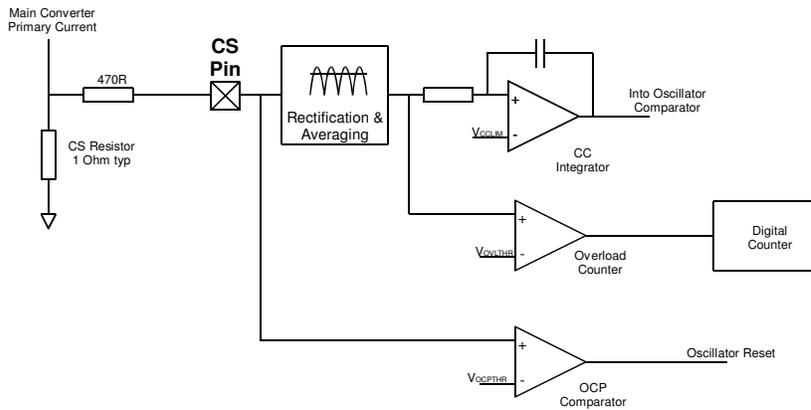

Figure 7: current protection circuits
Figure 7 shows the three current protection methods used in the converter:
Shown in Figure 7, the signal from the CS pin is divided into two different paths. The bottom path provides peak instantaneous over-current protection (OCP) while the constant current limit (CC) and the average current overload (OVL) both use the averaged current signal. The voltage on the CS pin is an AC signal biased around GND. Inside the IC, the signal is first rectified and low-pass filtered. This filtered signal is proportional to the average primary current (and therefore the output current) of the converter.
The CC limiting circuit is shown in Figure 7. The CC operation is defined by an internal control loop, using an integrator with a time constant of approximately  $100\mu\text{s}$ .